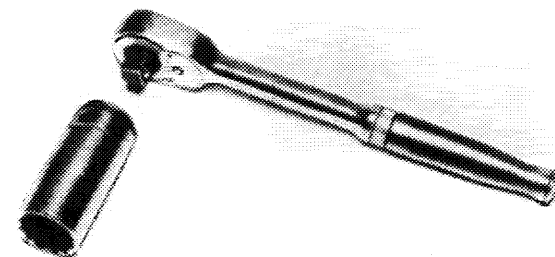

Fig. 05-1/5
- 5 Remove chain tensioner (2) (Figs. 05-1/1 to 4)